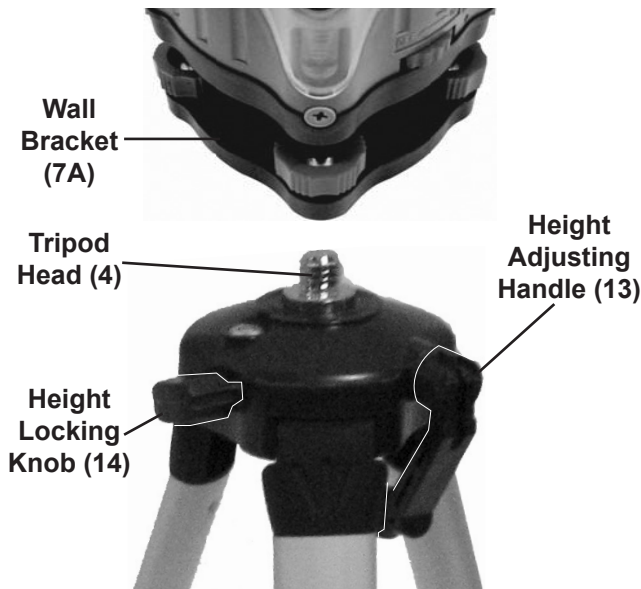

Figure 3
3. Then thread Wall Bracket (7A) onto Tripod Head. See Figure 3, below.
4. Once the Wall Bracket (7A) is secured on the head, you can use the Height Adjusting Handle (13) to raise the Level Housing to the desired height. Once the desired height is reached, lock the height in place by turning the Height Locking Knob (14). See Figure 3.